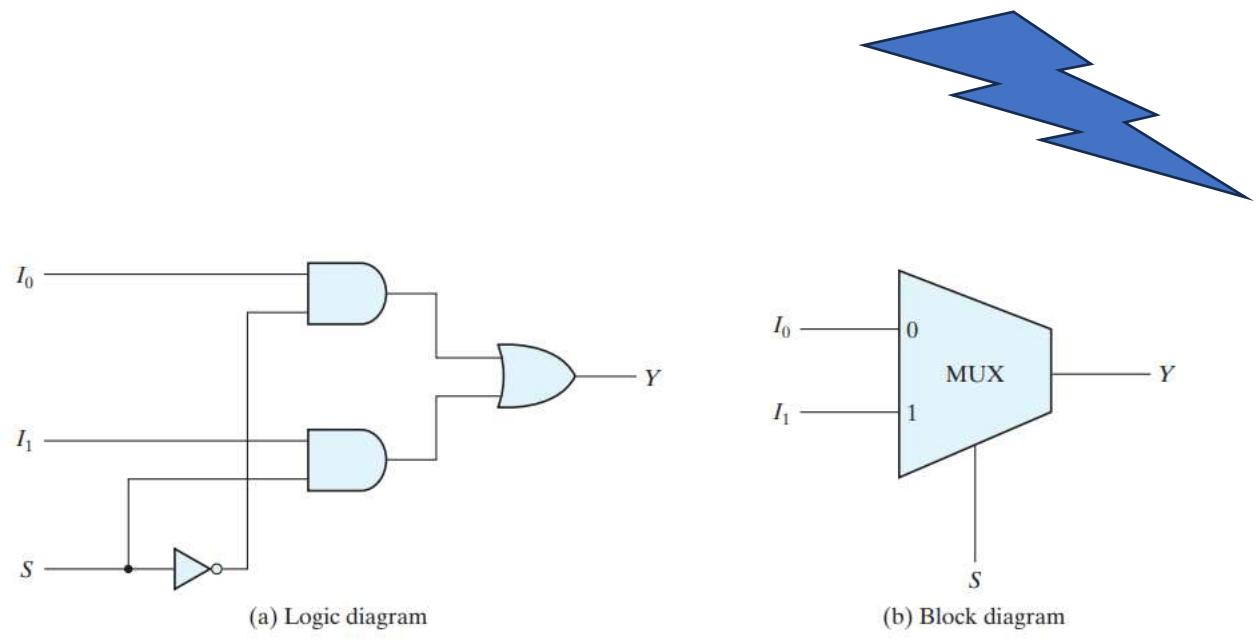

FIGURE 4.24
- A two-to-one-line multiplexer connects one of two 1-bit sources to a common destination, as shown in Fig. 4.24.